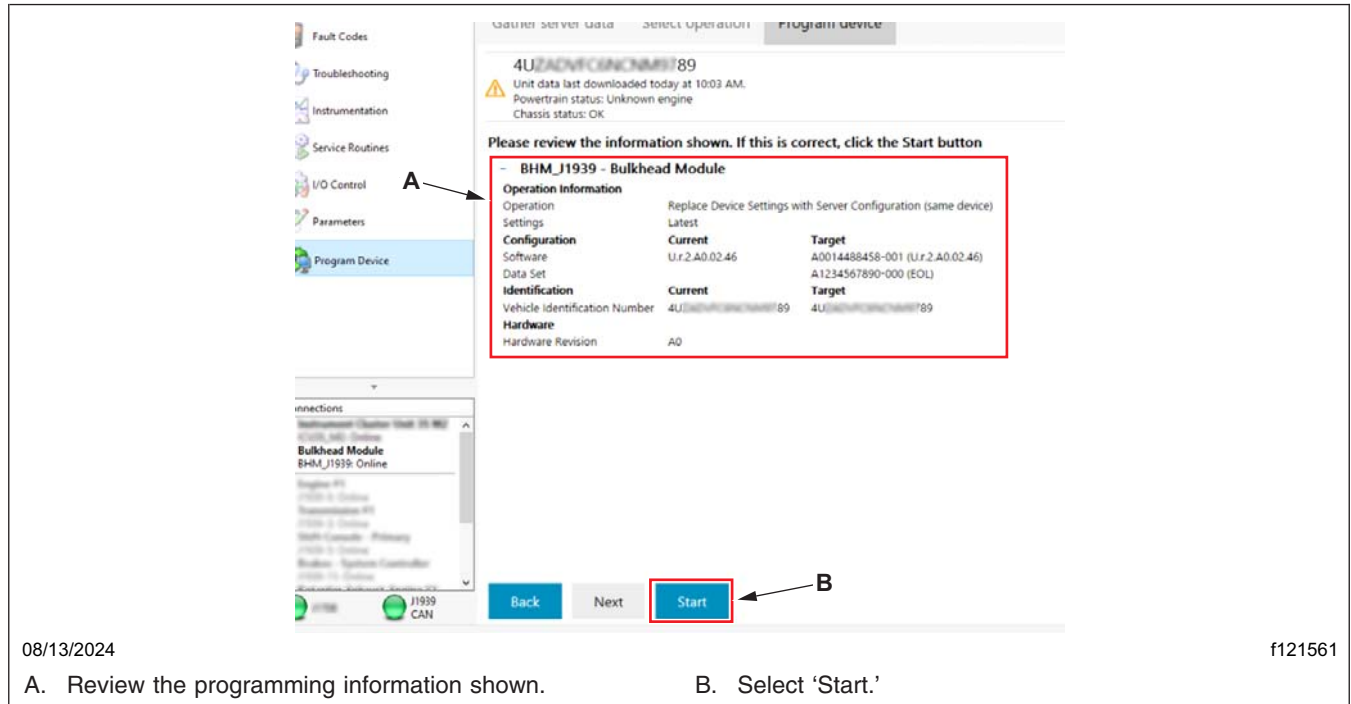

Fig. 4, Starting to Program the BHM
11. Review the information shown on the screen, and select 'Start' to begin the programming. See Fig. 4.